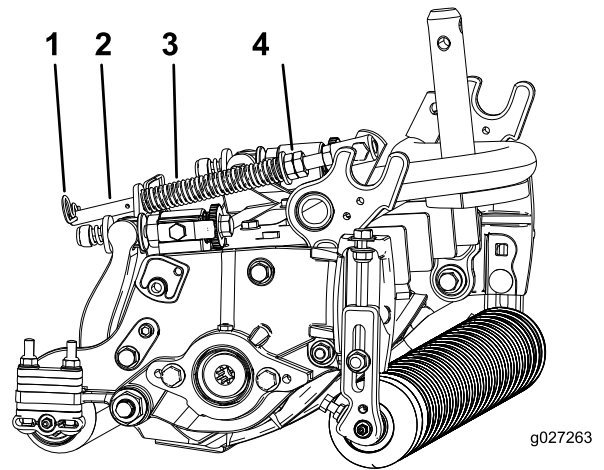

Figure 19
2. Tighten the hex nuts on the front end of the spring rod until the compressed length of the spring is 12.7 cm (5 inches); refer to Figure 19.
1. Make sure that the hairpin cotter is installed in the rear hole in the spring rod (Figure 19).